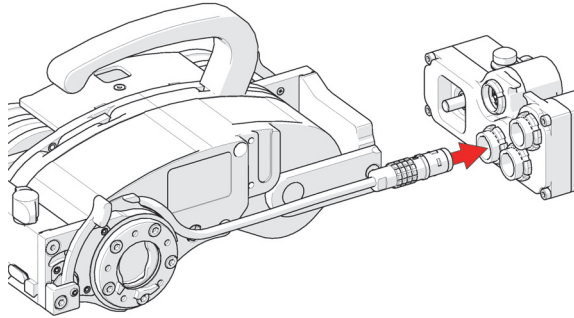

Figure 2-10 Connect to umbilical
1. Connect the umbilical by first plugging in the SteerROVER scanner's connector (see Figure 2-10 on page 56).